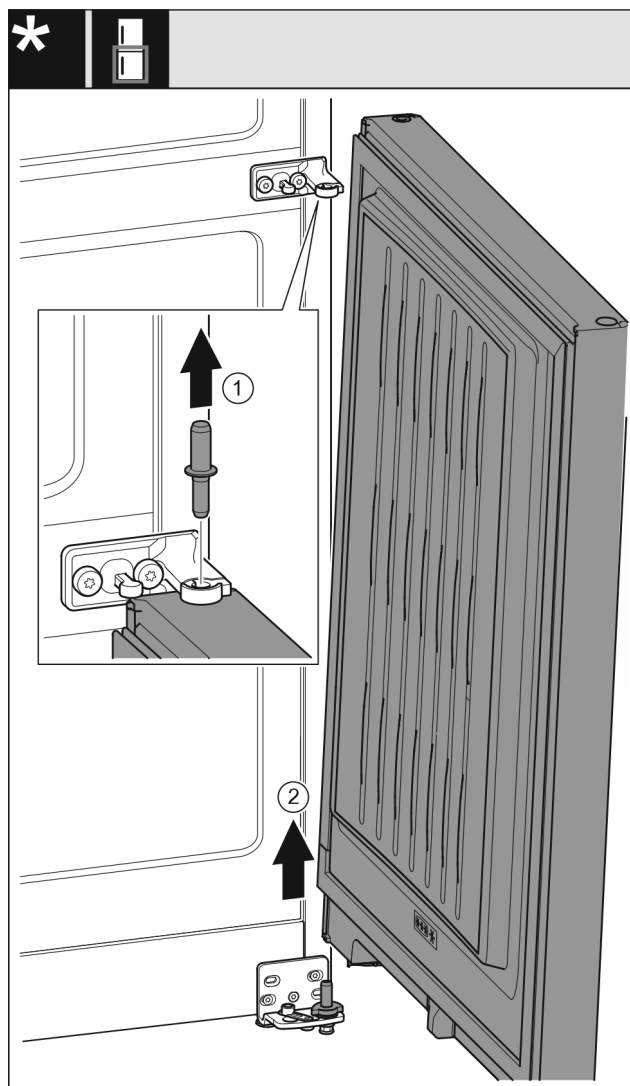

Fig. 9 Without closing damper
- ▶ Pull out the bolt Fig. 9 (1) upwards.
- ▶ Swing out the door Fig. 9 (2), pull it upwards and set it aside.